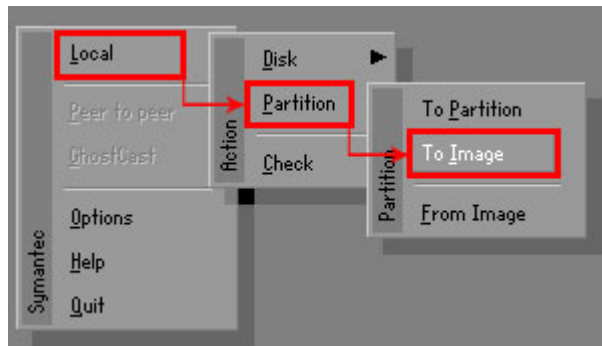

Figure D-13: Symantec Ghost Path
Step 4: Use mouse to navigate to the option shown below (Figure D-13).